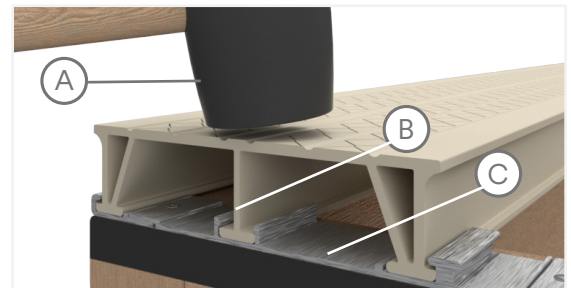

Fig. 12
- Finally, strike the center of the DockDeck board to “pop” the inner leg into the Clip Strip (Fig. 12).